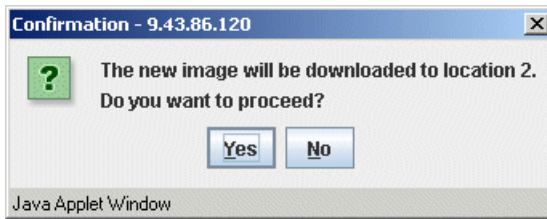

Figure 17-21 Download target confirmation
- As shown in Figure 17-21, the download targets the currently inactive boot location. Click **Yes** to proceed.